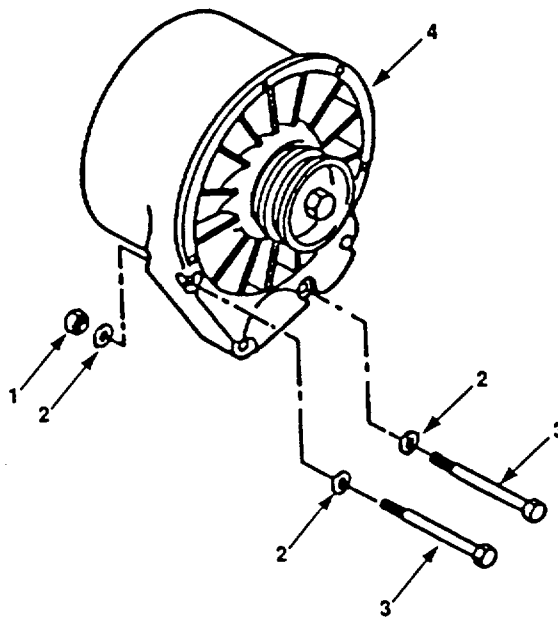

Figure 4-31. Cooling Fan Maintenance.
- a. Remove one nut (figure 4-31, 1), five washers (2), and four bolts (3).
- b. Remove cooling fan (4).
- a. Position cooling fan assembly (4) on engine.
- b. Install four bolts (3), five washers (2) and one nut (1).